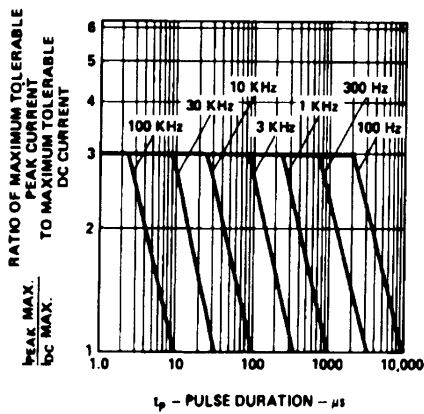

Figure 5. Maximum Tolerable Peak Current vs. Pulse Duration. (I_{DC} MAX as per MAX Ratings).
- See Figure 5 to establish pulsed operating conditions.